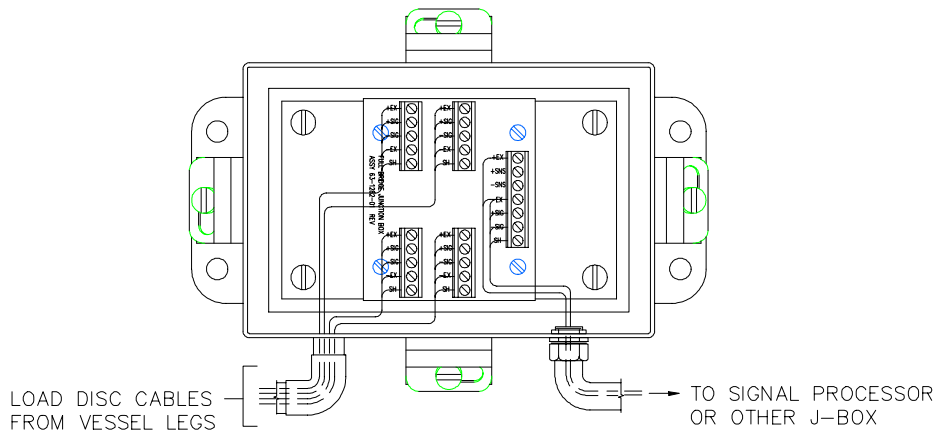

Figure 3-7: Wiring Load Discs to Stainless Steel Junction Box
See Figure 3-7. The stainless steel junction box accommodates up to eight Load Discs, with up to two Load Disc wires at each terminal. Note that the junction box has no pre-cut holes for conduit or fittings. Follow this procedure:
3. Thread the Load Disc cable through the desired conduit fitting. (See Figure 3-7).